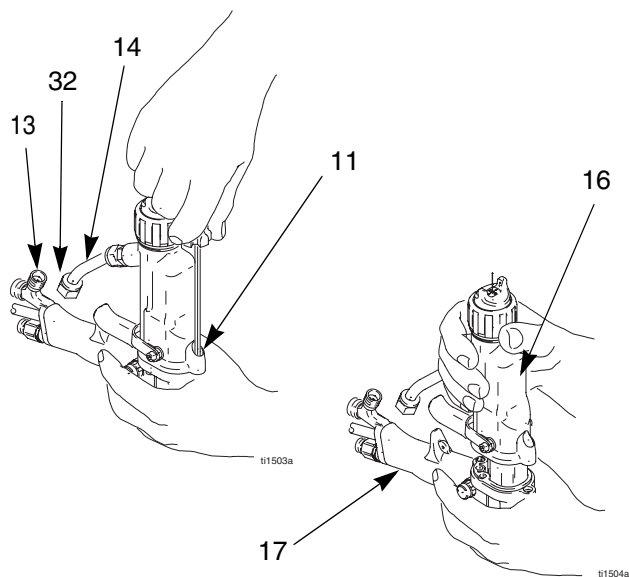

Fig. 13. Barrel Removal
4. Hold the gun handle (17) with one hand and pull the barrel (16) straight off the handle. See FIG. 13..